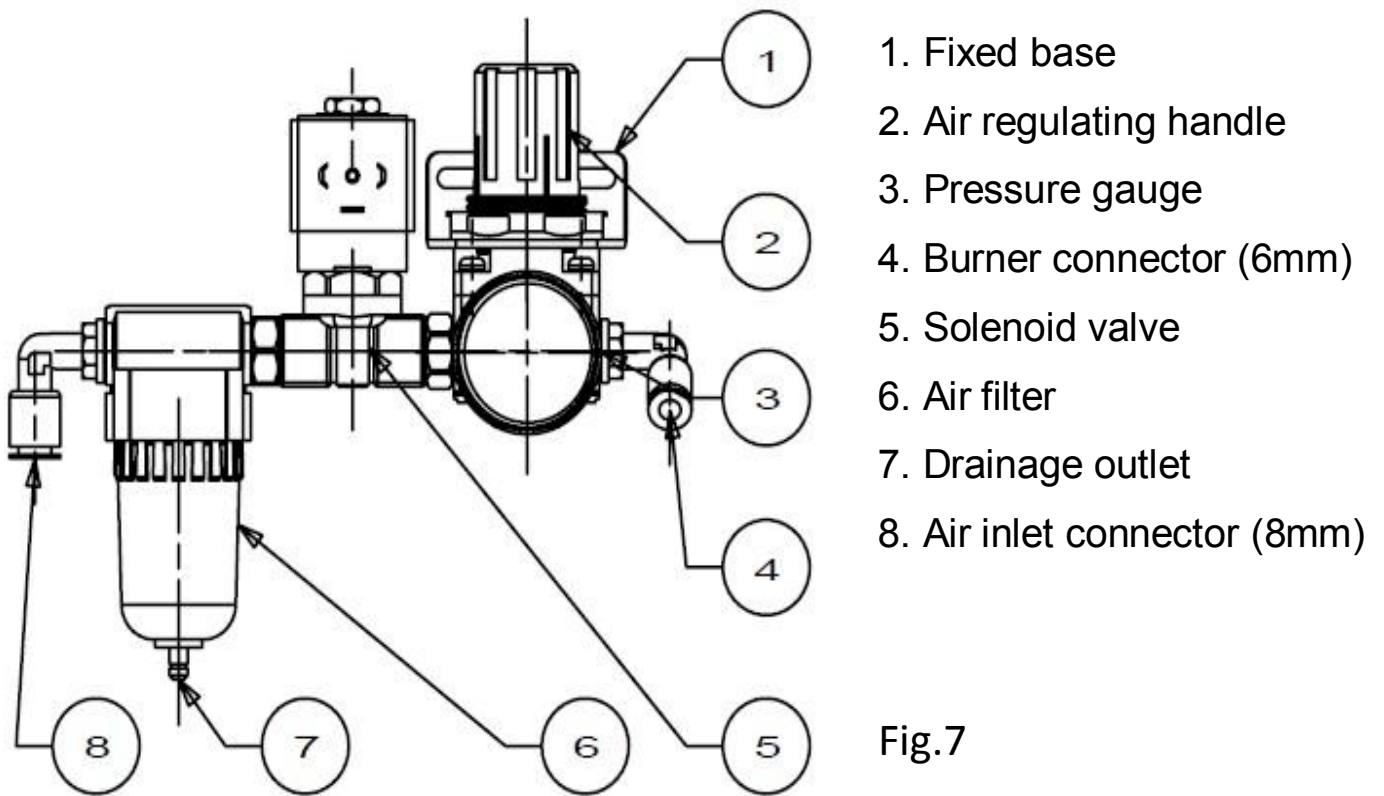

Fig.7
3. Fig.1 - 14 connect with Fig.7 - 4.
4. Fig.7 - 8 connect with air source .